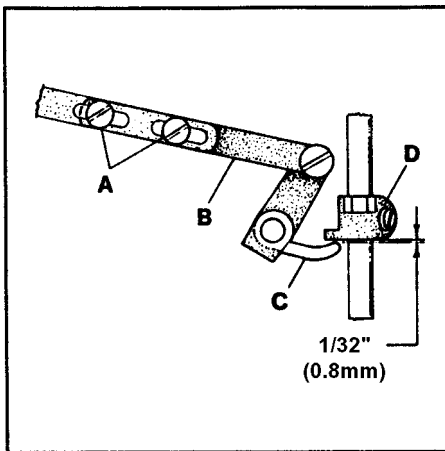

FIG. 22
Replace the presser spring and the presser bar regulating screw. Loosen screws (A, Fig. 22) in lifter lever link assembly (B) and position lever (C) so there is  $1/32$ " (0.8mm) clearance between it and presser bar guide (D) when the feed dogs are below the throat plate.
NOTE: Make sure the 1/32" (0.8mm) clearance between the presser bar lifter lever and presser bar guide has been maintained. Refer to Fig. 22 if readjustment is necessary.